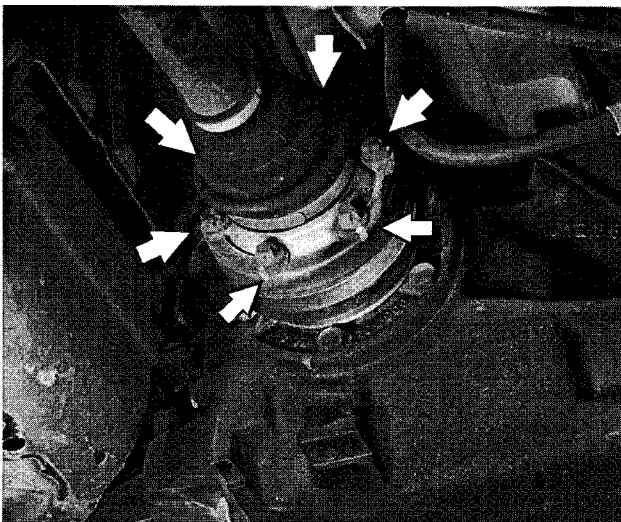

Fig. 12. Drive axle to final drive mounting bolts (arrows).
7. Remove drive axle from drive flange. See Fig. 12. Suspend drive axle from chassis using stiff wire.